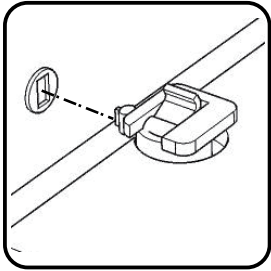

Figure 1
Attach Side Panels (C) and (D) to Back Panel (E), then flip the locks. (See Figures 1 and 2)